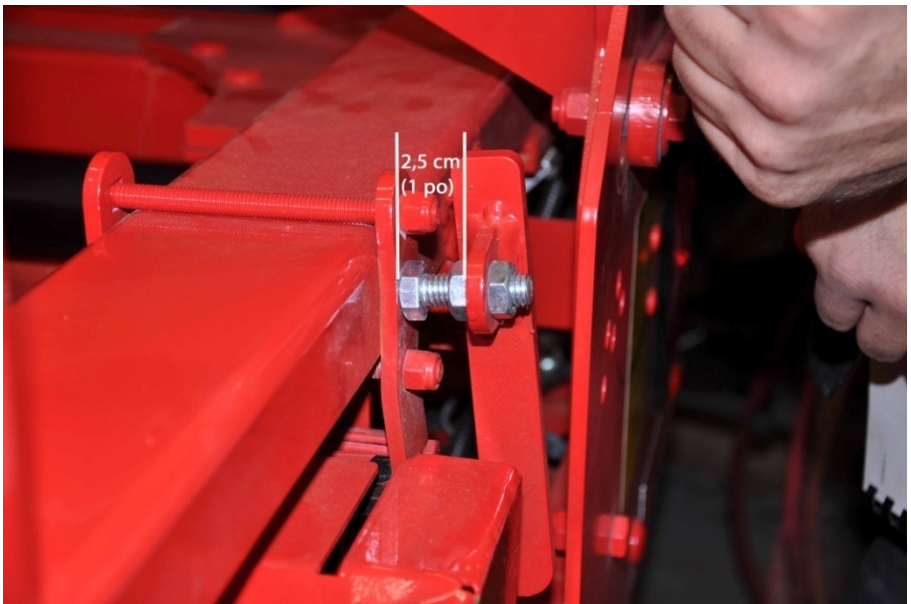

Figure 44 – Adjusting the limit stop for the pusher bar
2. With the bolts, you can adjust the space slightly as illustrated in Figure 44. The space should be about 2.5cms (1in).